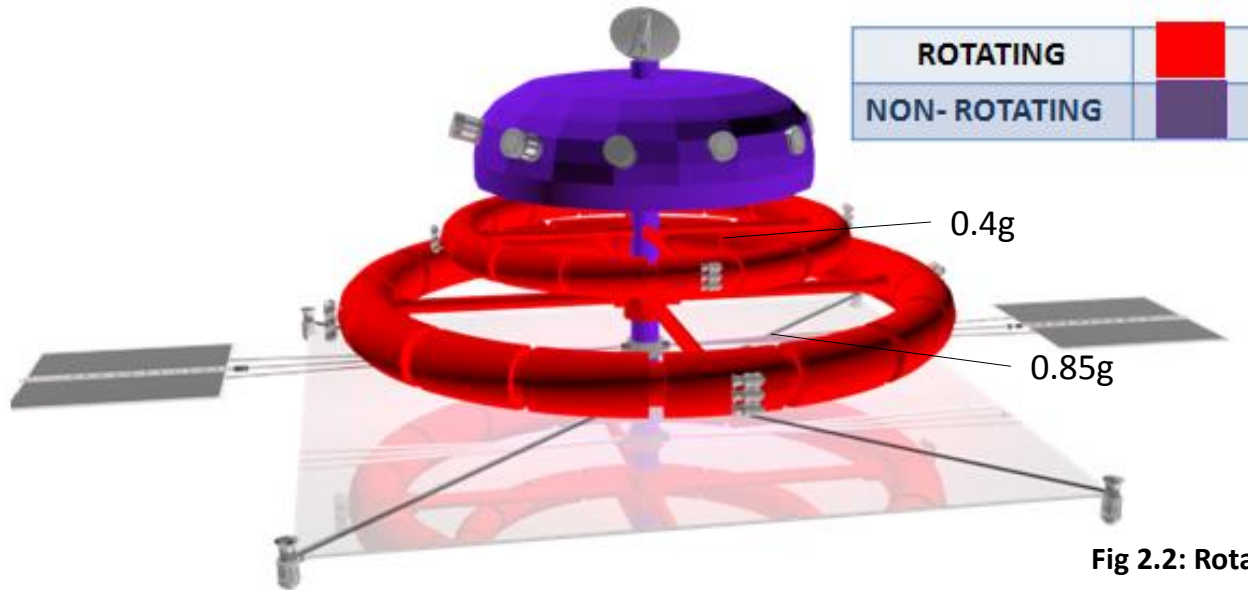

Fig 2.2: Rotating and non-Rotating sections
- Refer to Fig 2.2 for the sectors highlighting gravity magnitude in respective areas.